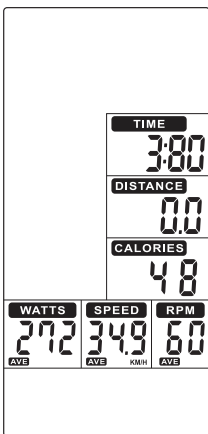
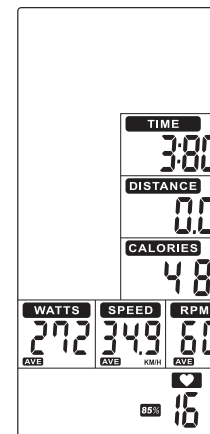

FIGURE 19
FIGURE 21
- Press the STOP (KEY 9), the TIME display (KEY 3) will show the total training time. The DISTANCE display (DISPLAY 4) will show the total exercise distance. The CALORIES display (DISPLAY 5) will show the total consumption during training. WATTS (DISPLAY 6), SPEED (DISPLAY 2) and RPM (DISPLAY 1) will change to display AVG. The & MAX.PULSE display will change to display 65%, 85% MAX (Figure 21 ~ 23) every 5s.
- Upon input of the heart rate signal, the HEART RATE display (DISPLAY 7) will show the user's rate. If there is no signal, nothing will be displayed. (Figure 19~20).
- Press STOP (KEY 9) to end the training, the audible alert will sound for 1s and display TIME (DISPLAY 3), DISTANCE (DISPLAY 4), CALORIES (DISPLAY 5) for 30s and WATT (DISPLAY 6), SPEED (DISPLAY 2) and RPM (DISPLAY 1) change to display AVG. & MAX. The HEART RATE display (DISPLAY 7) will change to display 65%, 85% MAX (Figure 21 ~ 23) every 5s.
- Upon input of heart rate signal, the display will show the user frequency of 65%, 85% MAX (Figure 21 ~ 23). If there is no signal, nothing will be displayed. (Figure 19~20).
- If the heart rate signal is detected, the PULSE display (DISPLAY 7) will show the user rate of 65%, 85% MAX (Figure 21 ~ 23). If there is no signal, nothing will be displayed. (Figure 19~20).
- Press the STOP key (KEY 9) to end the training, the TIME display (DISPLAY 3) will show the total training time; DISTANCE (DISPLAY 4) will display the total exercise distance; CALORIES (DISPLAY 5) will display the total consumption during training; WATTS (DISPLAY 6), SPEED (DISPLAY 2) and RPM (DISPLAY 1) will change to display AVG. & MAX. The HEART RATE display (DISPLAY 7) will change to display 65%, 85% MAX (Figure 21 ~ 23) every 5s.